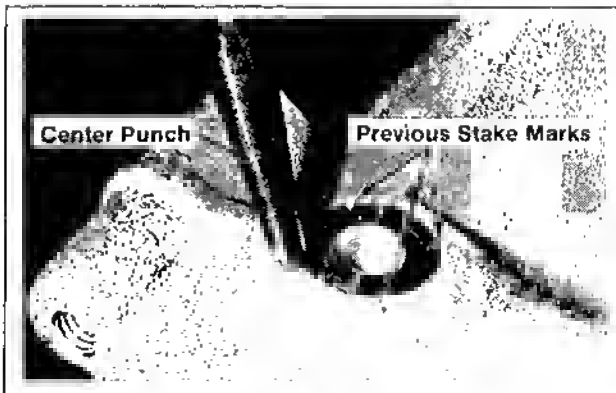

Figure 11-22. Restaking Camshaft Bore Plug.
8. Locate a center punch in the previous stake marks surrounding the camshaft bore plug. Restake the plug securely in place. Refer to Figure 11-22.